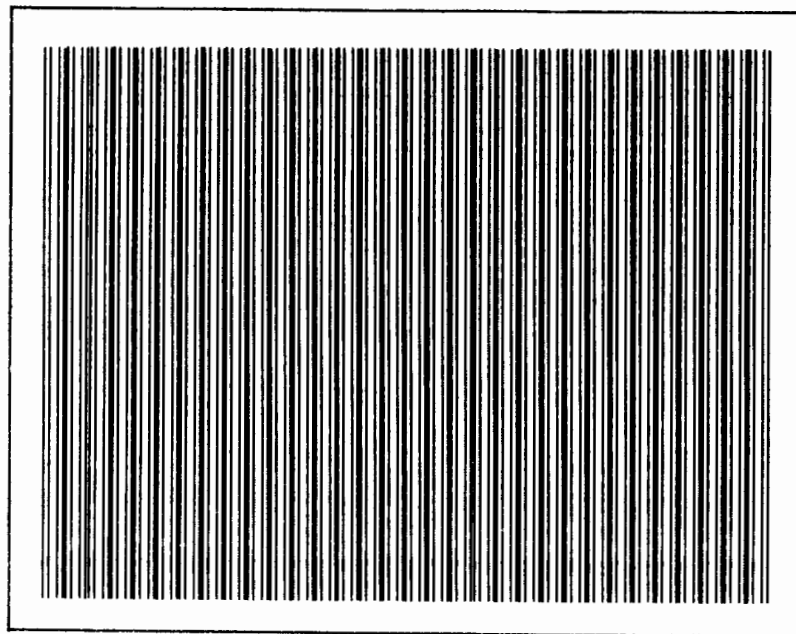

Figure 8-2. CRT Test Pattern 1
a. Vertical bars (CRT test pattern 1), as shown in figure 8-2. These bars remain on the screen for about 13 seconds.